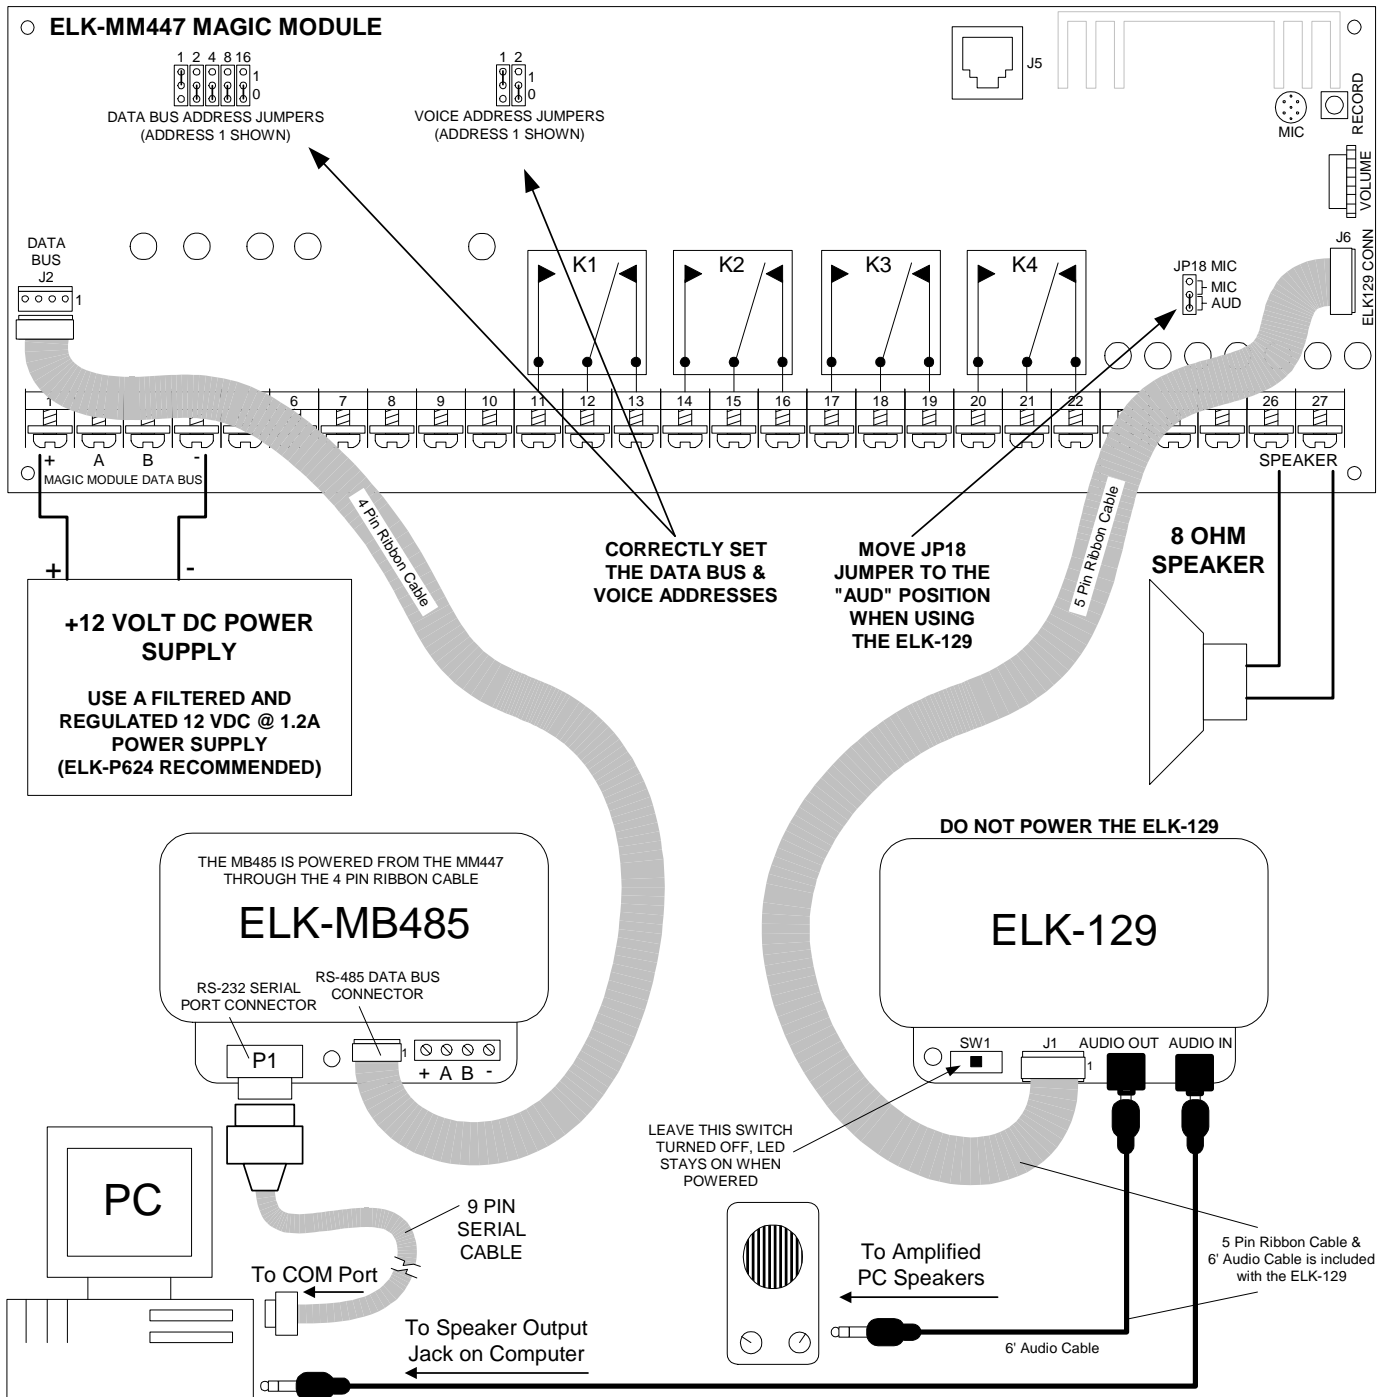

Figure 4 Optional ELK-129 Connection for PC Recording
If your computer is equipped with a speaker output jack, you have the option of using computer sound .WAV files for messages. In addition to the basic hardware requirements you will need an ELK-129 Sound Card Interface. This connects between the computer's speaker output and the MM447 as shown in Figure 4. The software that comes with the ELK-129 is not required.
1. Mount the MM447 board in the NX cabinet as shown in Figure 4. Connect it to the keypad input (3 wires: Red, Green, and Black). This will centrally power it from the NX Control. If you prefer (or need) to power the MM447 from another source, leave off the Red +12V wire from the KP POS and connect another DC power source to the +12V and Neg terminals
2. Mount an ELK-73 Speaker near the entry/exit keypad and connect it to the speaker terminals using two (2) wires.
4. Connect the four (4) wire modular cord from connector J5 to a X-10 Transceiver Module (PSC05). NOTE: One 1 or more X-10 or Leviton brand powerline modules (Lamp or Appliance type) are need to utilize the lighting/energy saving modes.